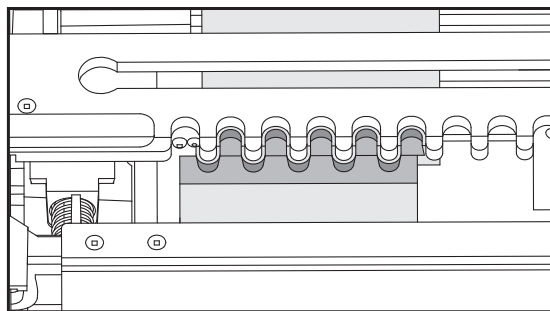

Fig. F15
14. Set router onto stabilizer bar with bit between bar and the workpiece and make the cut. Make a slow climb cut from right to left along vertical tailboard. Then clean out all gaps in both boards moving slowly from left to right. Final cut should look like Fig. F15.